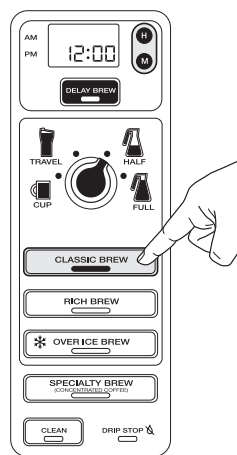

Fig. 3
- 4 Select the Brew Type that you desire from the 4 flashing buttons. The selected brew type will be lit. **(Fig. 3)**